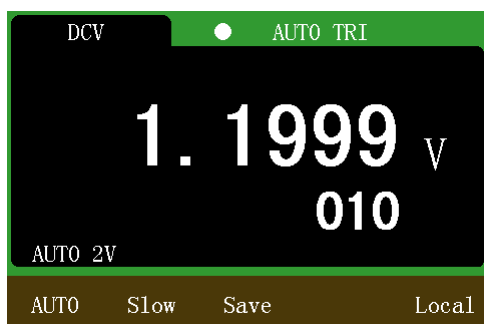

Figure 5-16 Data save function
1. Press  to select the save function, as shown in Figure 5-16. Press  again to exit the save function.